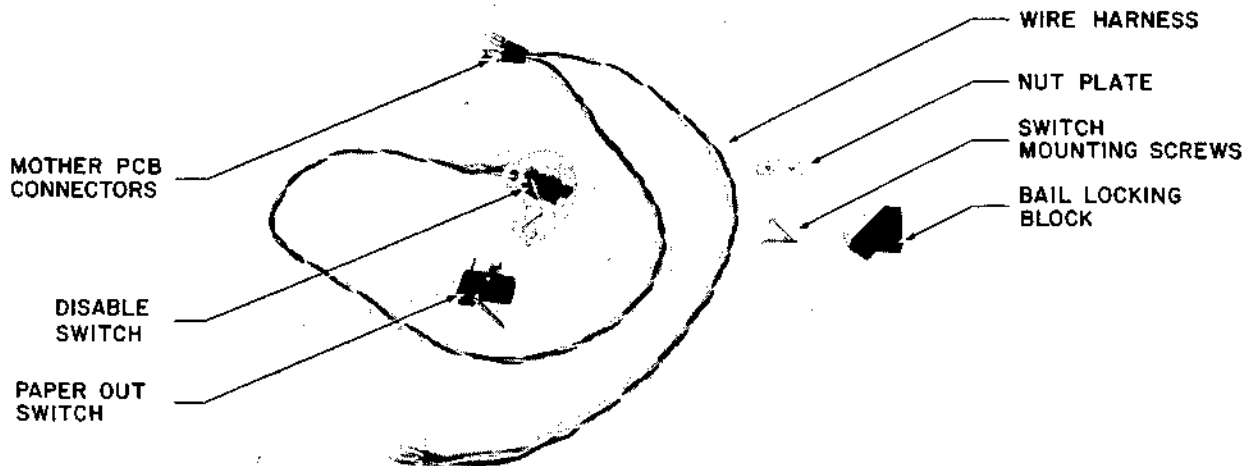

Figure 5-43 BOTTOM FEED PAPER CHUTE PAPER OUT SWITCH PARTS
NOTE: If the switch is NOT to be used, replace it with the bail locking block shown in Figure 5-43, and disregard subsection 5.4.7.2 Step 7, and subsection 5.4.7.3 Steps 6 and 7 below.
7. Assemble and identify the parts needed for installation of this portion of the Bottom Feed Paper Chute. Note that either the paper out switch or the bail locking block should have been installed earlier. Figure 5-43 illustrates these parts.